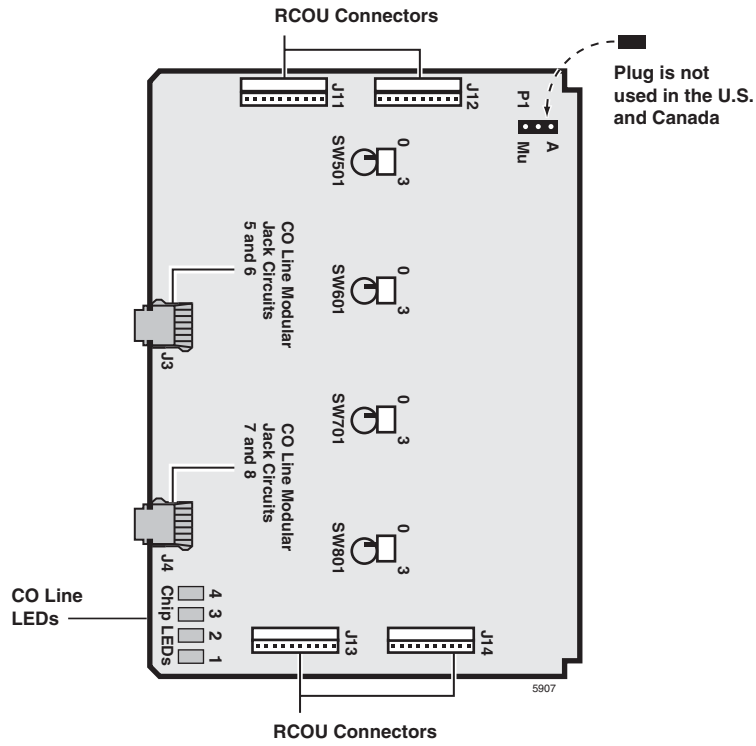
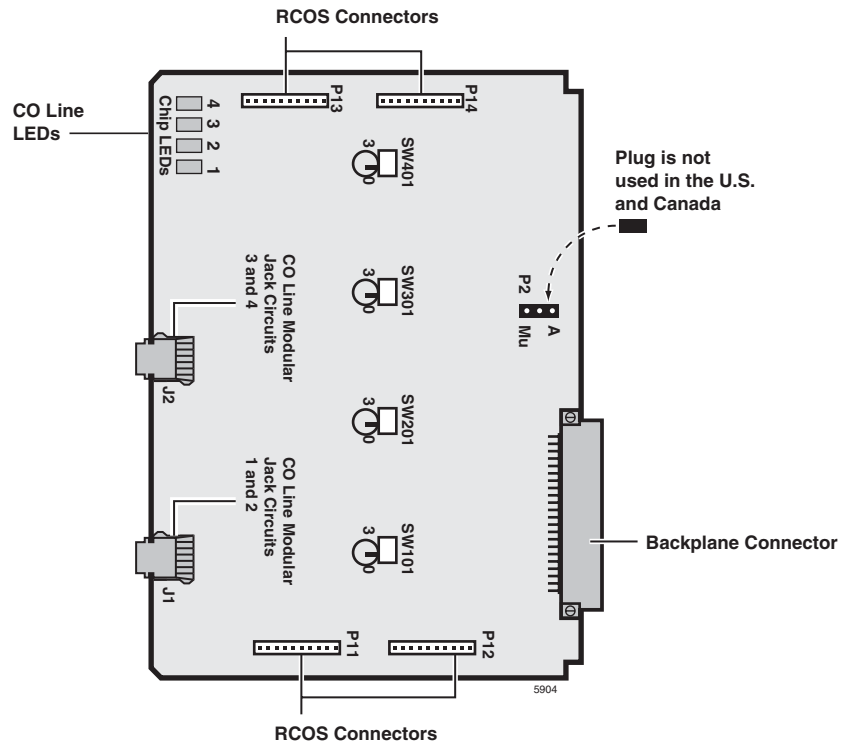

Figure 6-16 RCOS3A PCB
Figure 6-18 RCOU3A PCB
The RCOU3A and RCOU PCBs are shown in Figures 6-18 and 6-19 and described in Table 6-12.
The RCOS3A and RCOS1A PCBs are shown in Figures 6-16 and 6-17 and described in Tables 6-10 and 6-11.
2. Mate the RCOS3A female connectors J11, J12, J13, and J14 (Figure 6-16) to the RCOU3A or RCOU1A male connectors P11, P12, P13, and P14 (Figures 6-18 or 6-19).